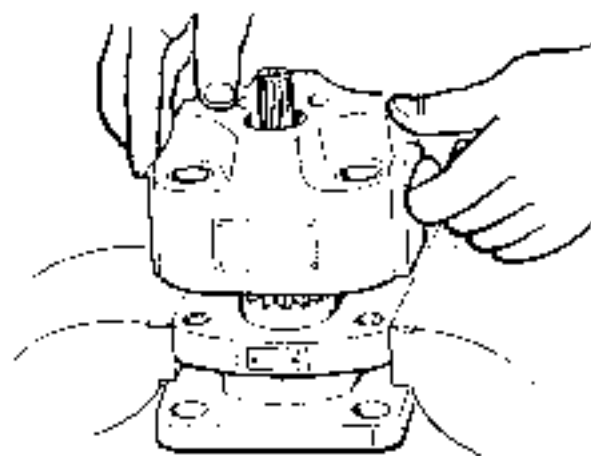

Fig. 18
13. Clamp shaft end cover (1) in a vise with the mounting part down.
14. While turning drive shaft (3) and idle gear (4), insert them through the shaft holes, and push them carefully until they come to rest on side plate (5). For this, apply hydr. oil to the gear and side plate.
15. Put gear housing (2) straight to the position of side plate (5), and then, lightly drive it with a plastic hammer, taking care not to drop square ring (6). Make sure that the punch marks made during the disassembly are aligned. (Fig. 18)
又、分解時につけたポンチ記号が前と同じ位置にあるか確認する。(Fig. 18)